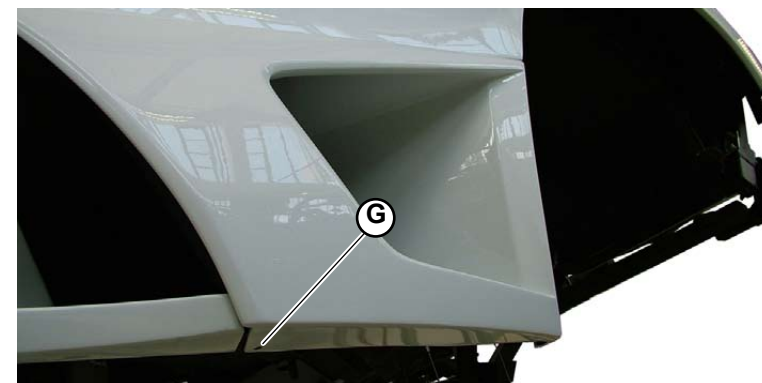

Fig.4
8. Tighten the screw (**G-Fig.4**) on the lower part of the conveyor.